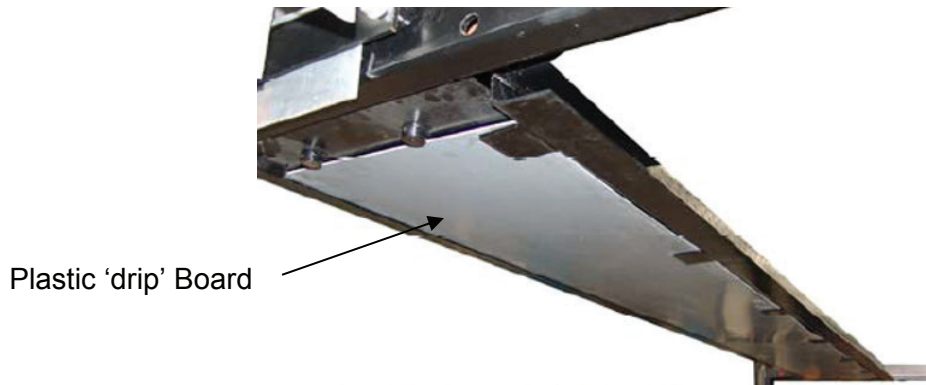

Fig.11
28. Install the Plastic 'drip' Boards (# 51A) into the bracket slots on the underside of the Mainside Runway, as shown below in Fig 11.